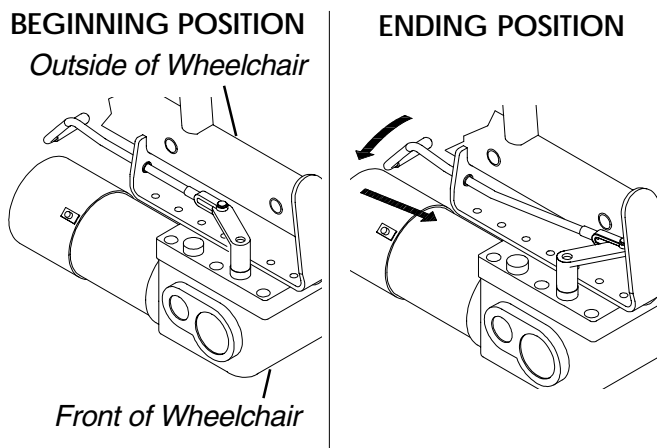

FIGURE 15 - ENGAGING CLUTCHES
ENGAGING/DISENGAGING CLUTCHES (FIGURES 15 AND 16)
2. Perform one (1) of the following:
- A. **ENGAGE (FIGURE 15)**-